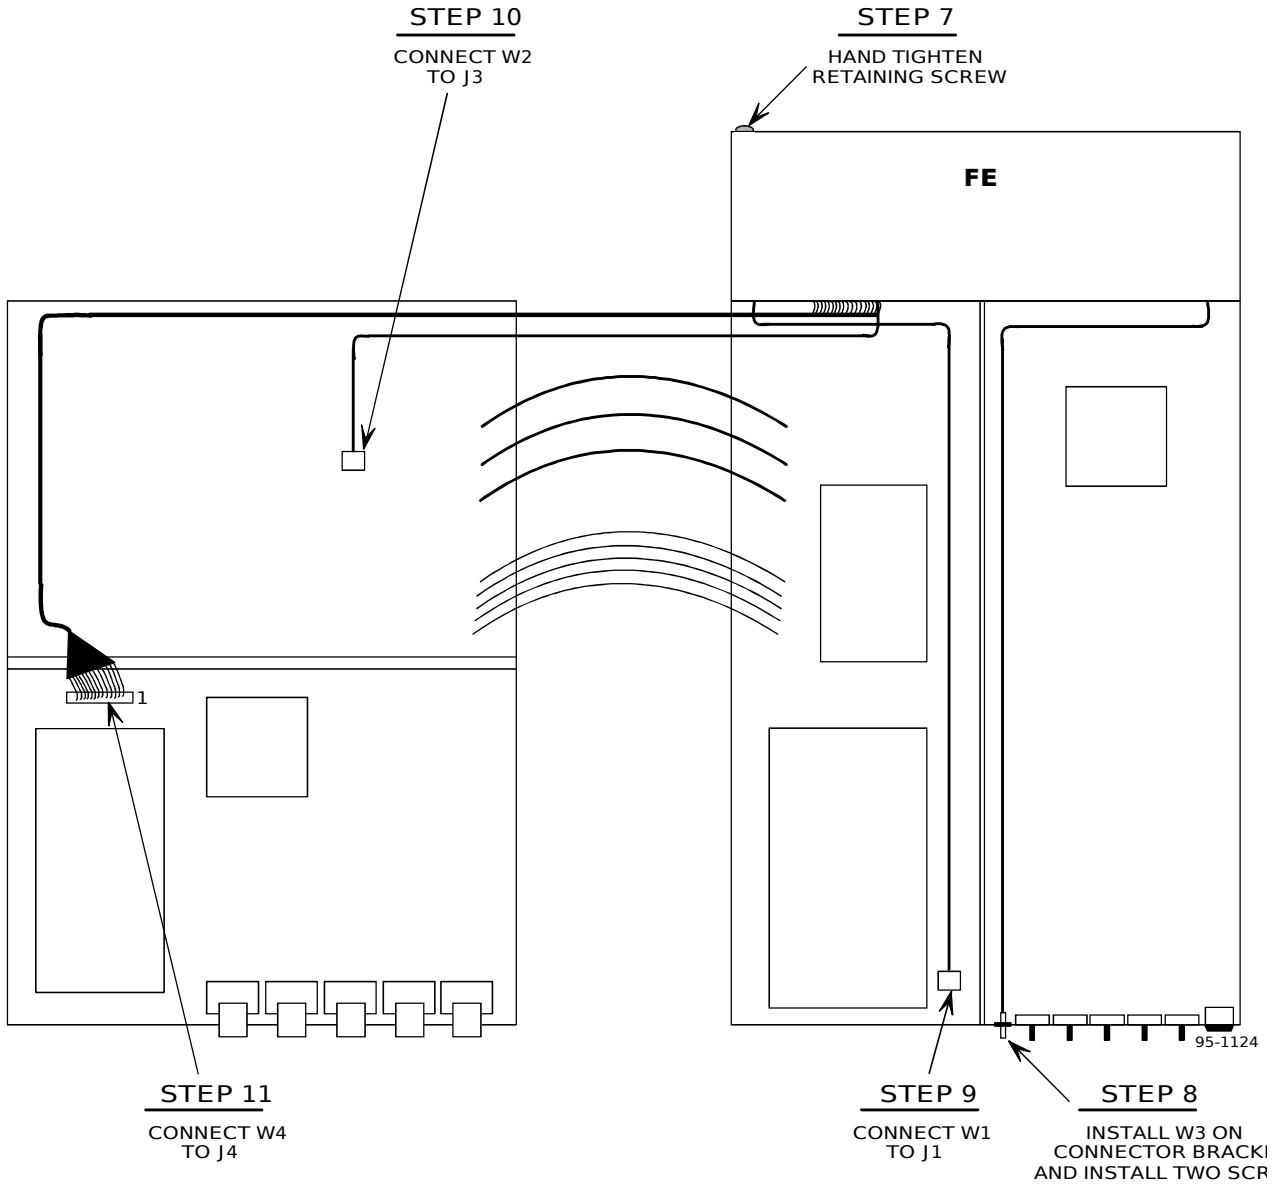

Figure C-3. Installing the FE and Connecting the Cables
7. Referring to **Figure C-3**, align the FE with the rear top half of the Miniceptor and hand tighten the retaining screw of the FE into the Miniceptor's chassis.